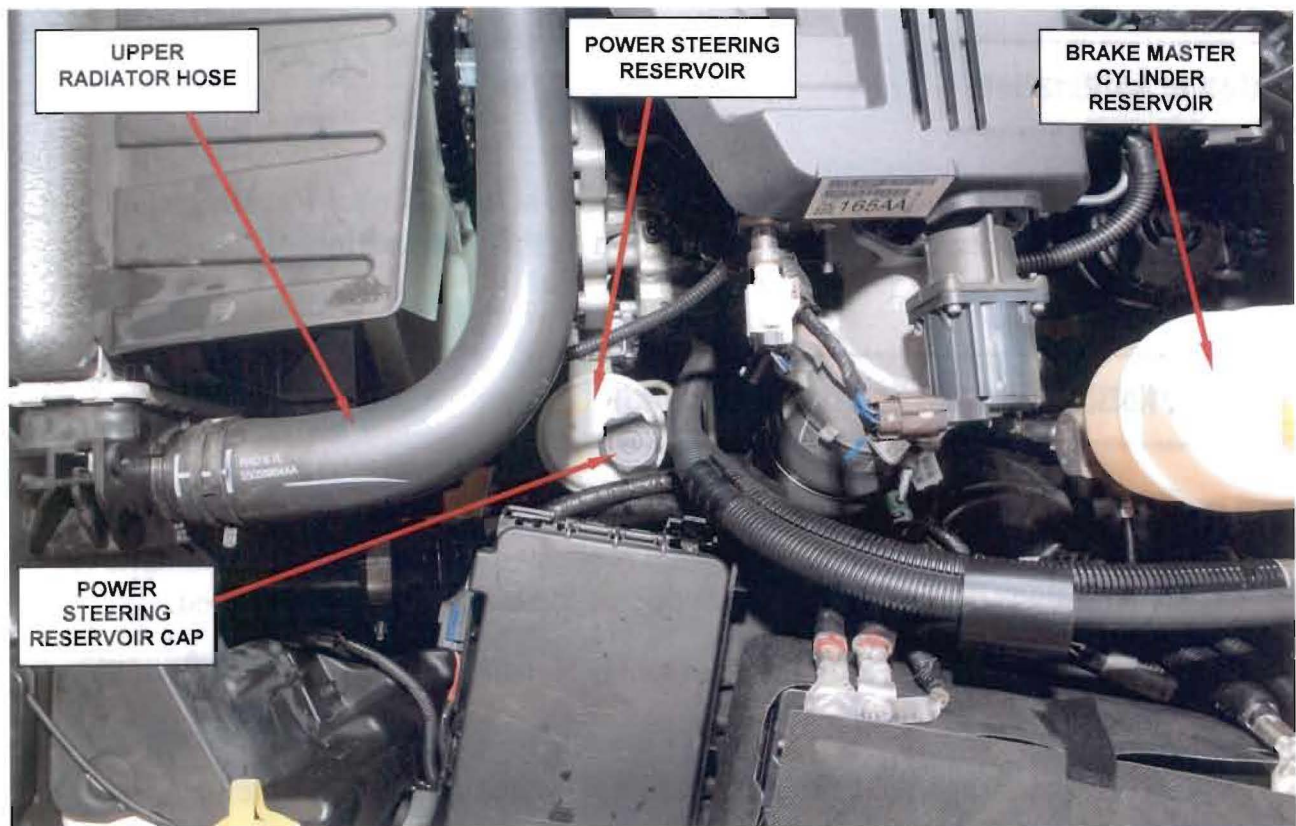

Figure 1 – Power Steering Reservoir Cap Location
2. Locate the power steering reservoir cap (Figure 1).